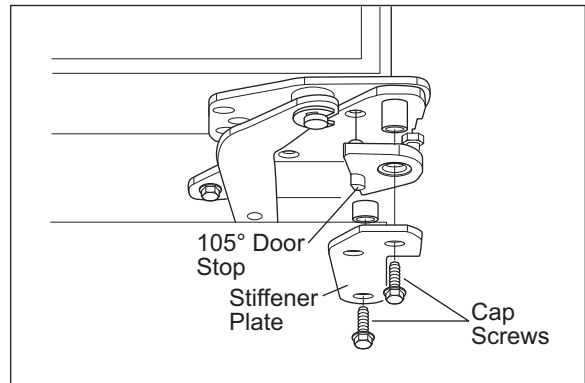

Figure 1
1. With door closed, remove the two 5/16 x 3/4 cap screws from below the bottom cabinet hinge stiffener plate. Remove stiffener plate and spacer bushing (See Figure 1).
2. Slide door stop onto hinge pin. The stub on the door stop fits into the hole in the cabinet hinge (See Figure 1).
3. Retain door stop by replacing stiffener plate, spacer bushing, and cap screws (See Figure 1).